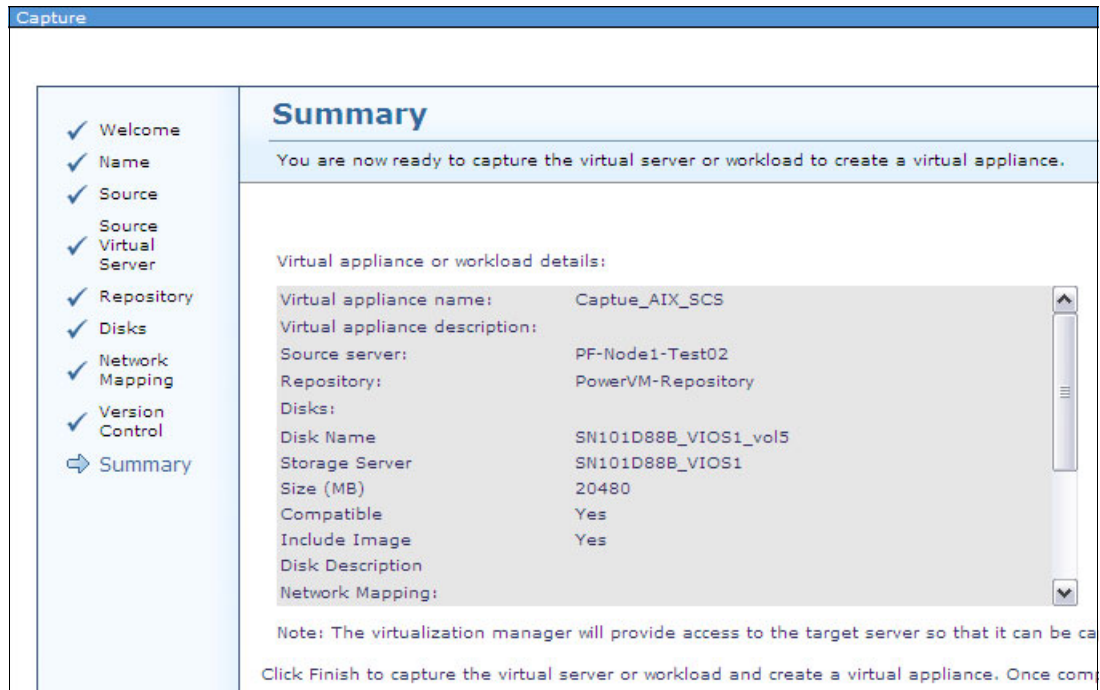

Figure 10-124 Summary window
7. Figure 10-124 shows summary window. Click **Finish**.